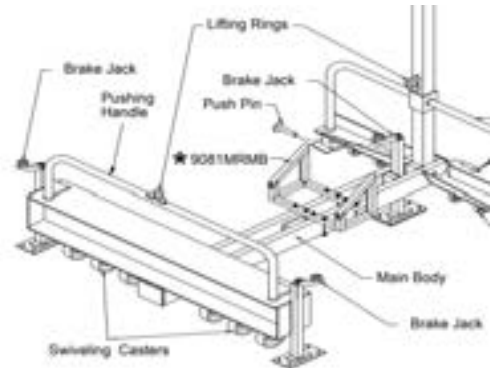

Figure 4
- b. Once the installation and working distance requirements are understood and have been satisfied, lower each of the brake jacks completely by rotating the brake jack handle clockwise until each stops rotating. Be sure to lower completely. Failure to do so could hinder the performance of the unit in the event of a fall and may cause serious or fatal injury. (Fig. 4)